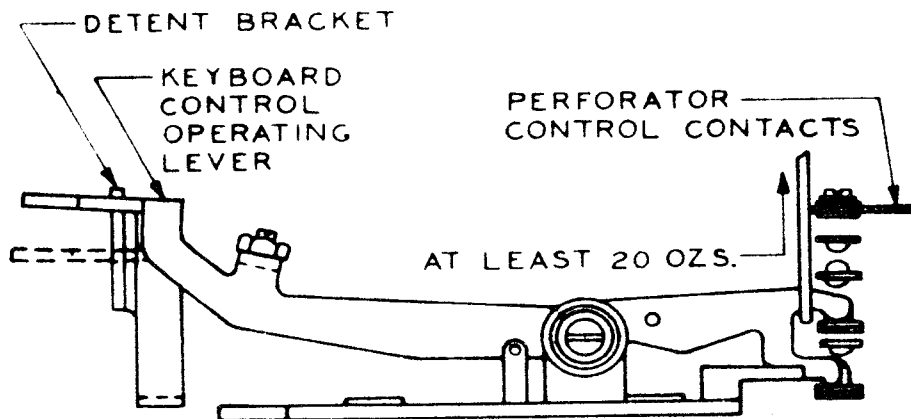

Figure 20
2.27 Keyboard-control Operating Lever should require minimum 20 ounces to move the lever from its upper KEYBOARD position to its middle KBD & TAPE position. See Figure 20.